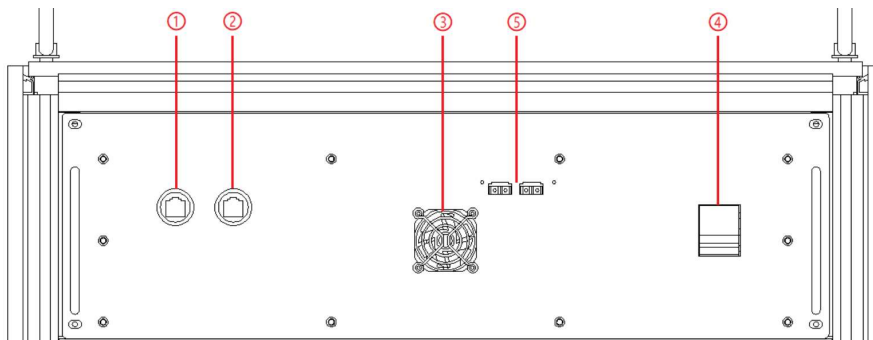

Figure 3-7 Front panel of control module
Step 3: Open the cabinet door and power off the control unit switch (Figure 3-7④).